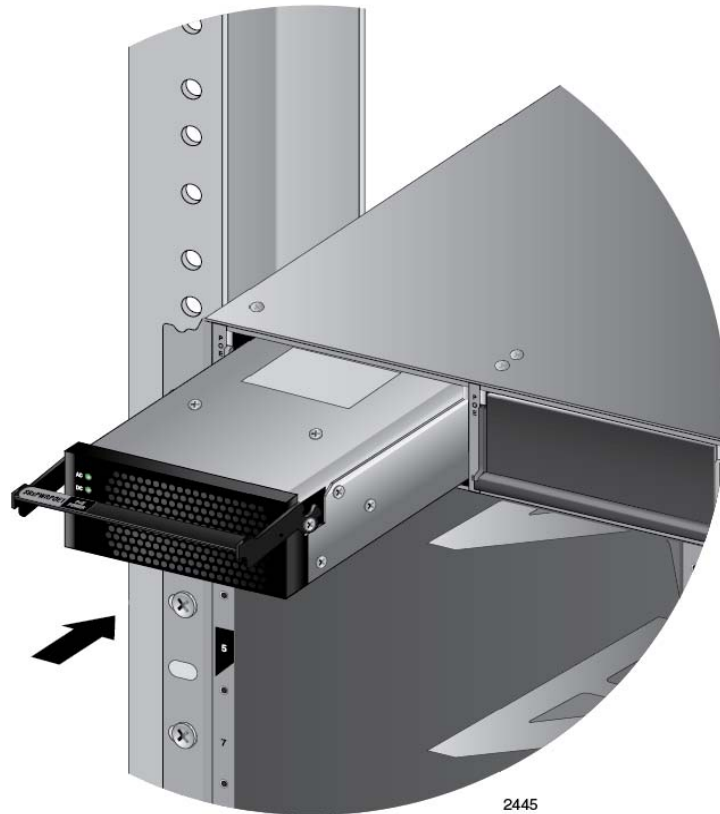

Figure 54. Inserting the AT-SBxPWRPOE1 Power Supply
5. Align and insert the AT-SBxPWRPOE1 Module into slot A or B. Figure 54 shows the power supply module aligned in slot A.